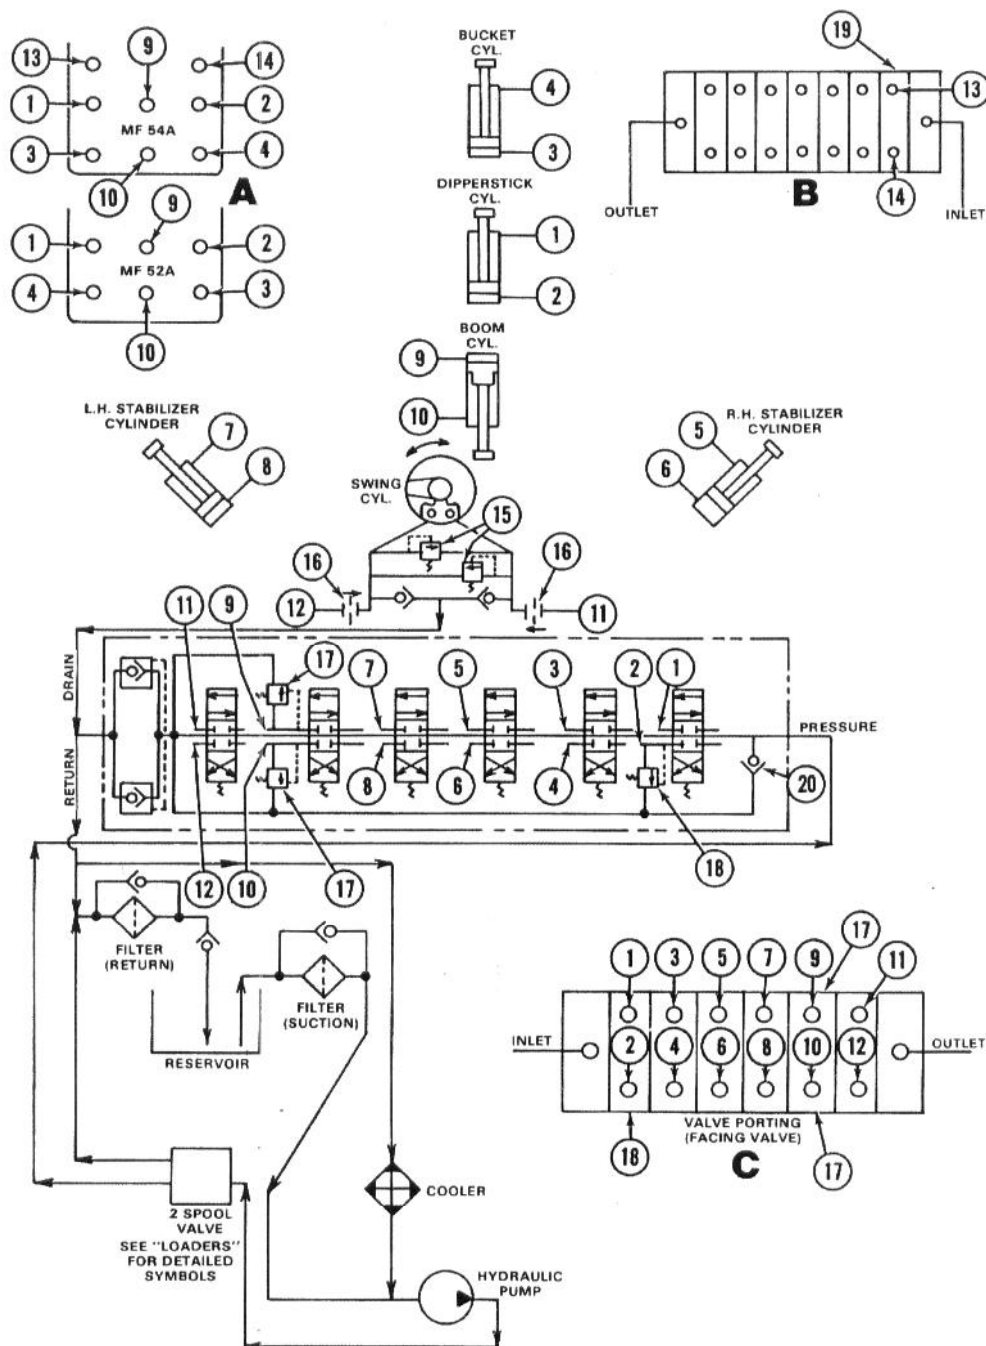

Fig. 2 — Illustration Typical of Backhoe Hydraulics* — "Standard" Control Levers
*NOTE: Graphic Symbols for Backhoe control valve, swing cylinder with internal dampening (MF 54A) and stabilizer cylinders (internal lock valve) are not complete ... also, the lines between valve and cylinder ports are not shown connected. Valve working sections are with "Ford" control levers ONLY ... see Fig. 2 for "Standard" 4-lever and 6-lever controls.